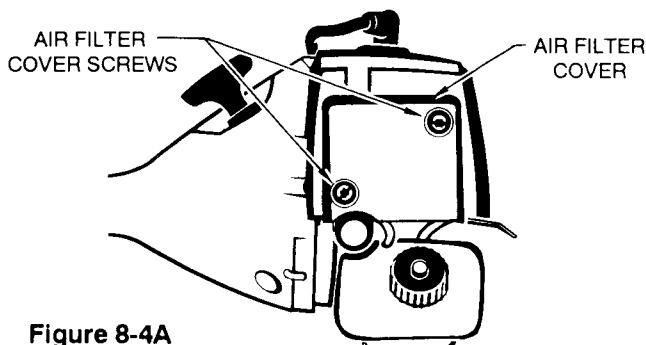

Figure 8-4A
1. Remove 2 screws holding air filter cover in place and remove cover. (Figure 8-4A)